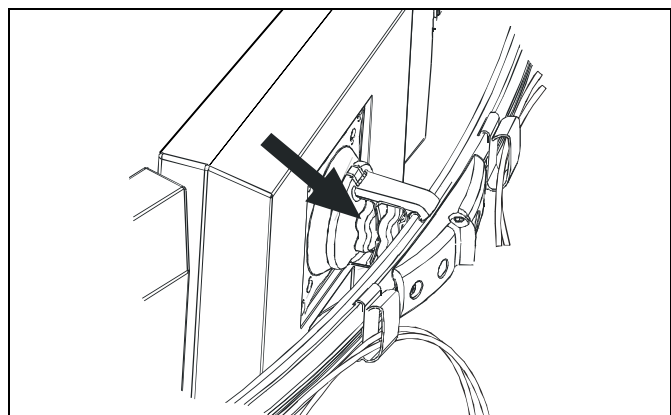

Figure 13: Display Pitch and Roll Adjustment
1. Loosen Centris bracket front adjustment knob. (See Figure 13)